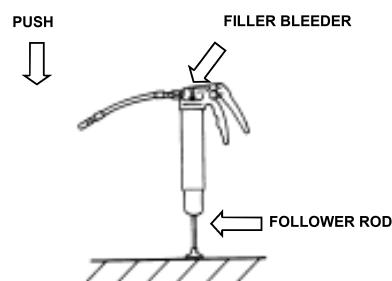

Fig 5
2) Unscrew the Filler/Bleeder Valve two full turns (see Fig 5). Lock the Pull rod into the follower.
3) Place the rod Pull Handle on a flat surface and push gun down firmly (see Fig 5). Some grease will appear before air is expelled.